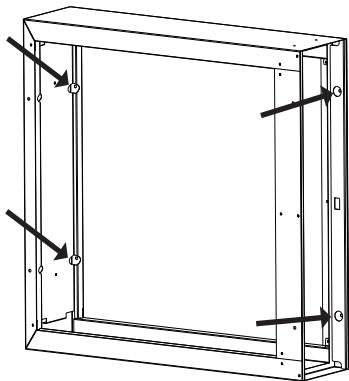

Fig. 8 – Mounting Holes
5. Mounting holes are provided for simple connection to duct work and unit cabinet. See Fig. 8. The 0.14 in. holes are sized for #8 sheet metal screws, or 1/8 in. rivets. If the adjoining duct work is flanged, install the screws so that the screw heads are inside the cabinet. This will prevent damage to the EZ-Flex filter during removal and installation.